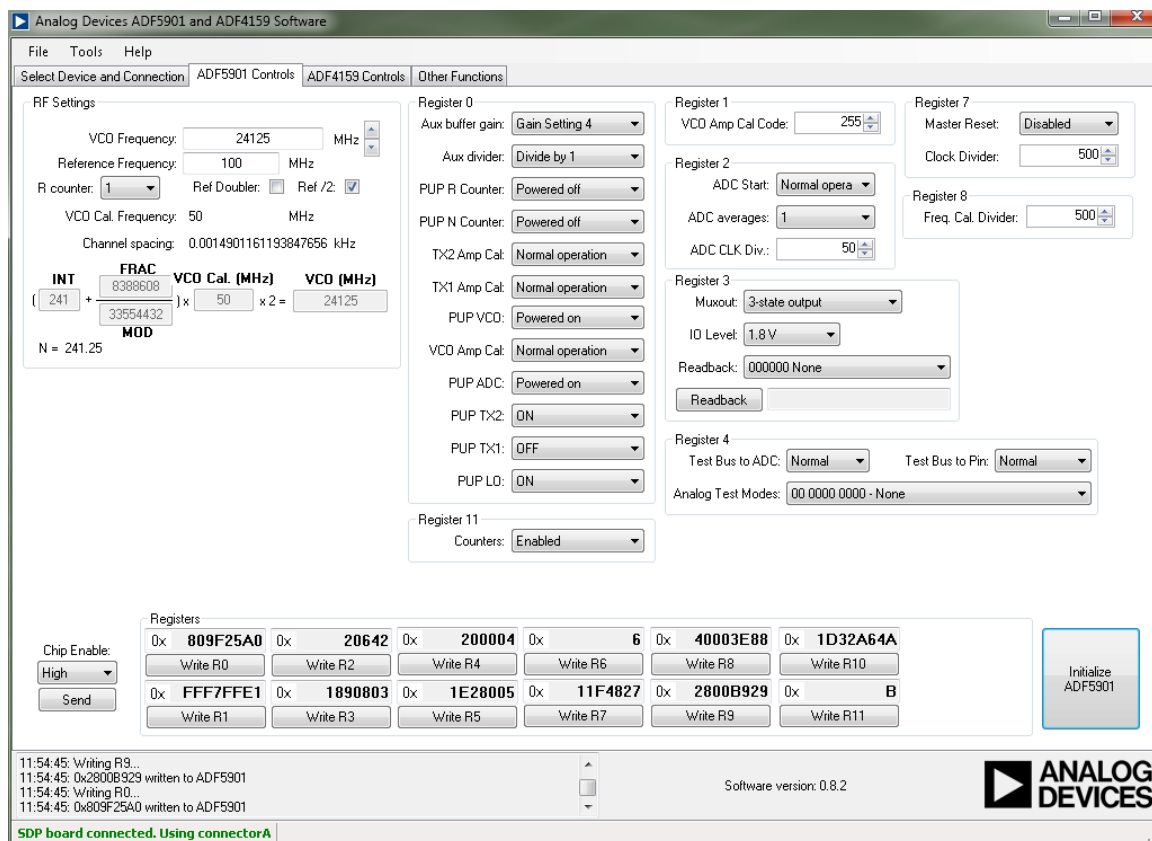

Figure 3. Software Front Panel Display—**ADF5901 Controls**
10. Click the ADF5901 **Controls** tab and click **Initialize ADF5901** (see Figure 3).
To control the **ADF5901** settings (see Figure 3), select the **ADF5901 Controls** tab.
To set the calibration frequency for the **ADF5901**, go to the **RF Settings** section shown in Figure 3 under the **ADF5901 Controls** tab. Set the frequency to the center of the frequency band. Type the desired output frequency in the **VCO Frequency** text box (in MHz).